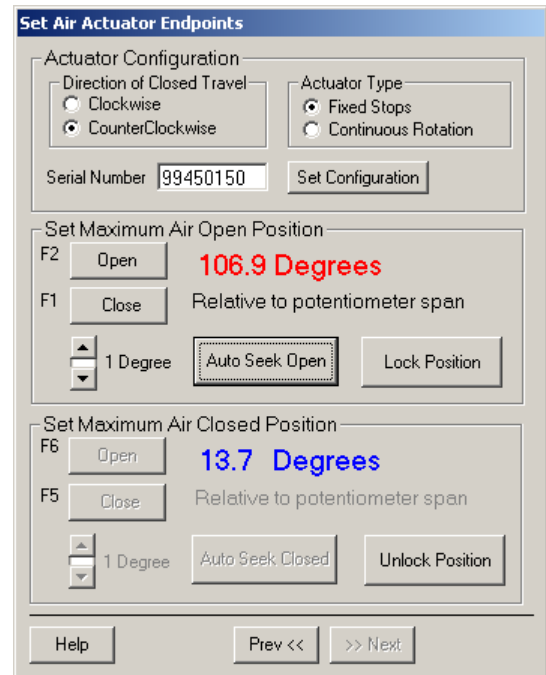

Fig. 12. Move actuator five degrees off the mechanical open stop.
- 8. Move the actuator five (5) degrees off the mechanical open stop. See Fig.12.